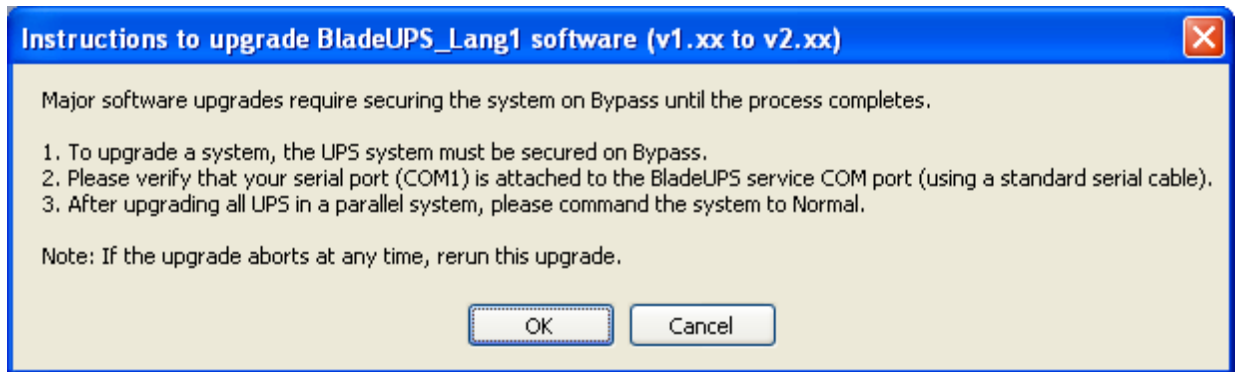
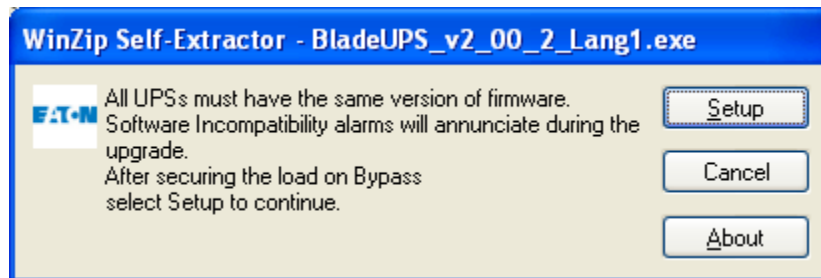

Figure 1 (Instructions Dialog Box Example)
Figure 2 (Start upgrade Dialog Box Example)
5. Ensure there is a serial communication cable connected between the computer serial DB-9 COM1 and the BladeUPS service serial port (labeled DB-9 Communication Port). The BladeUPS service DB-9 port shares communications with the card slot labeled “X-Slot Communication Bay 1”, so it is recommended that during firmware upgrades any intelligent cards in that X-slot bay be shut down and pulled out partially as to not interfere in the firmware upgrade process. If your PC doesn’t support COM1 then follow the instructions for batch file upgrades. Also, ensure that no other applications are using COM1. If your PC does not have a DB-9 serial port, a USB to serial converter cable is available, so Eaton Customers may request a free USB-to-serial adapter cable at: <http://powerquality.eaton.com/Support/Software-Drivers/Downloads/bladeups-firmware.asp>. Registration is required before being able to access the link. Once Registered the link is located at the bottom of the Firmware Main page. Double click the executable file from Windows Explorer to start the upgrade. If the flash process fails, restart the program by double clicking the executable file again. Figure 1 represents the dialog box presented when the program is run. Select the OK button. Figure 2 represents the dialog that reminds you that parallel systems must all have the same firmware version. Select the Setup button.
6. When the upgrade is complete, (typically 5 to 8 minutes per UPS) the UPS will return back to the mode that it was in when the firmware update was started so either on internal bypass, HE mode, or in a UPS off state. Each module in a system will take approximately 60 to 90 seconds to return to HE (normal) operation after giving the “success” message, and closing the upgrade window after the firmware upgrade is complete. Upgrade the remaining modules by repeating steps five (5) and six (6).